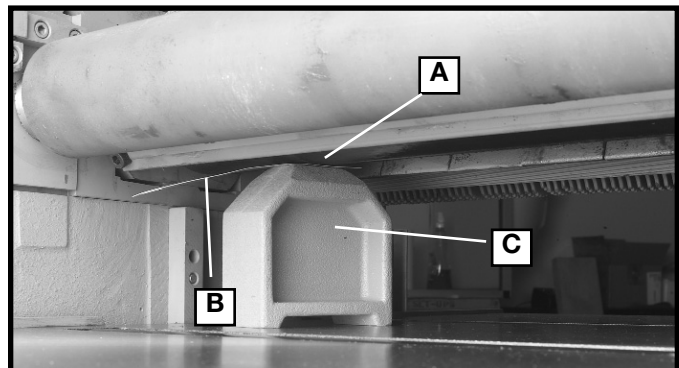

Fig. 35
3. Place the gauge block (C) Fig. 35, on the table directly underneath the cutterhead, as shown. Place a .035" feeler gauge (B) on top of the gauge block and raise the table until the knife (A) just touches the feeler gauge when the knife is at its lowest point.